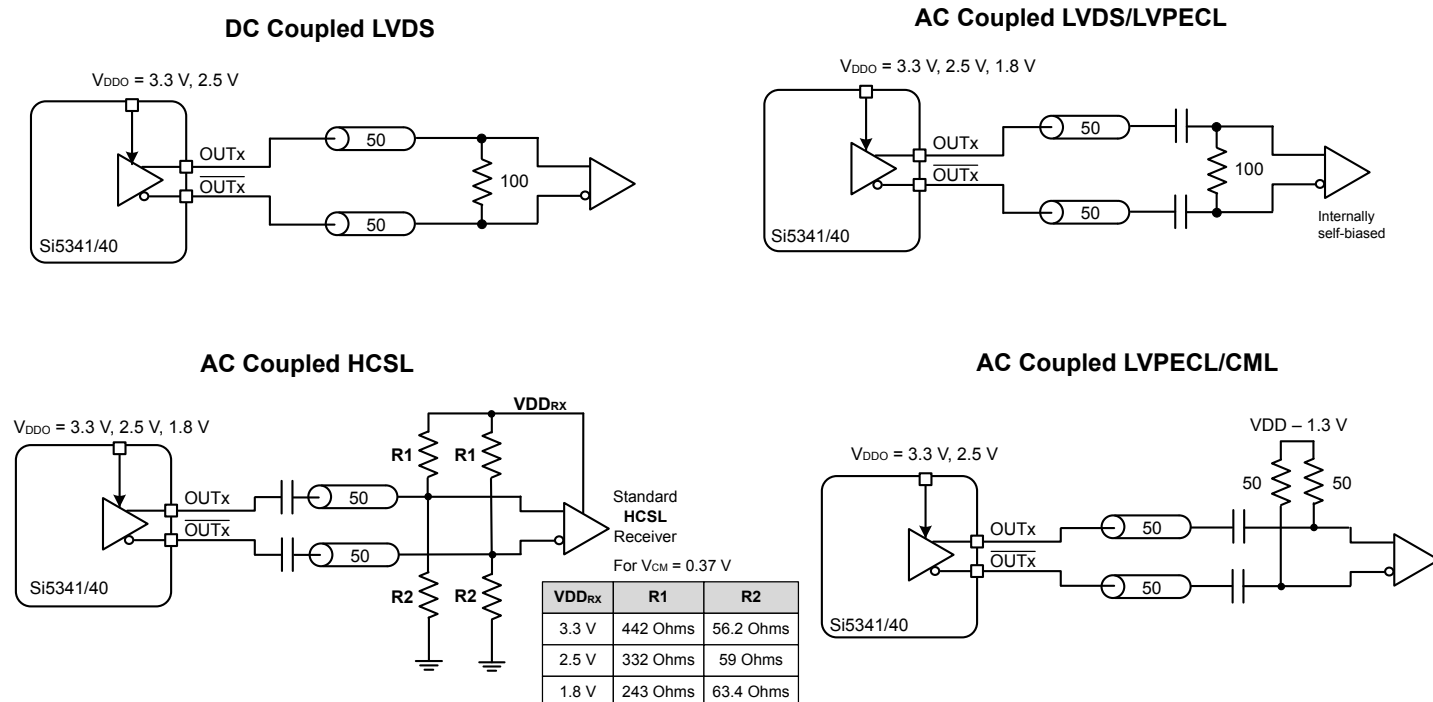

Figure 6.1. Supported Differential Output Terminations
2. Creates HCSL compatible signal. See Figure 6.1 Supported Differential Output Terminations on page 23.